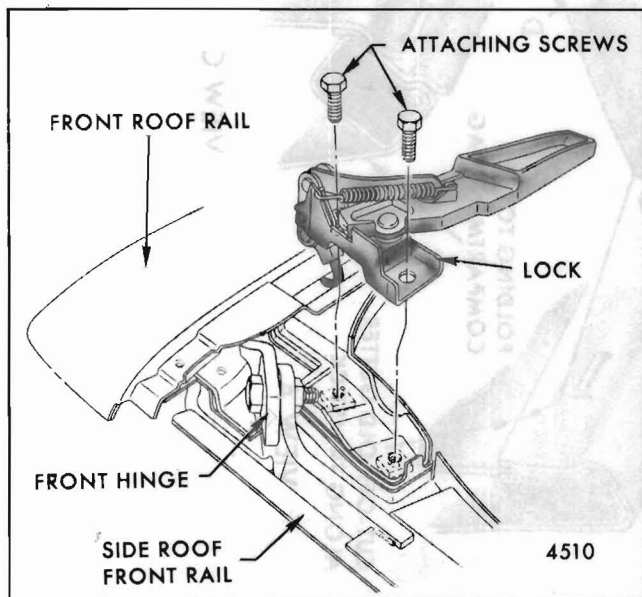

Fig. 15-Front Roof Rail Lock Attachment
2. With lock handle in open position as shown in Figure 15, detach spring, remove lock attaching screws and remove lock.